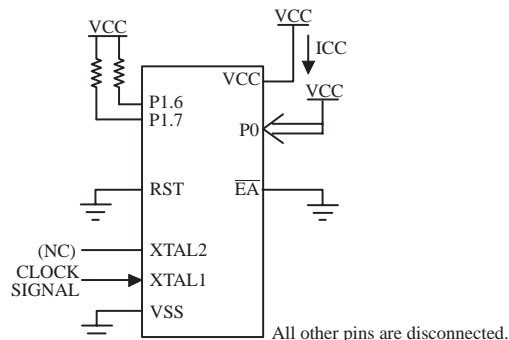

Figure 38 ICC Test Condition, Idle Mode
- Idle ICC is measured with all output pins disconnected; XTAL1 driven with TCLCH, TCHCL = 5ns, VIL = VSS + 0.5V, VIH = VCC - 0.5V; XTAL2 N.C; Port 0 = VCC; \overline{EA} = RST = VSS (see Figure 38).